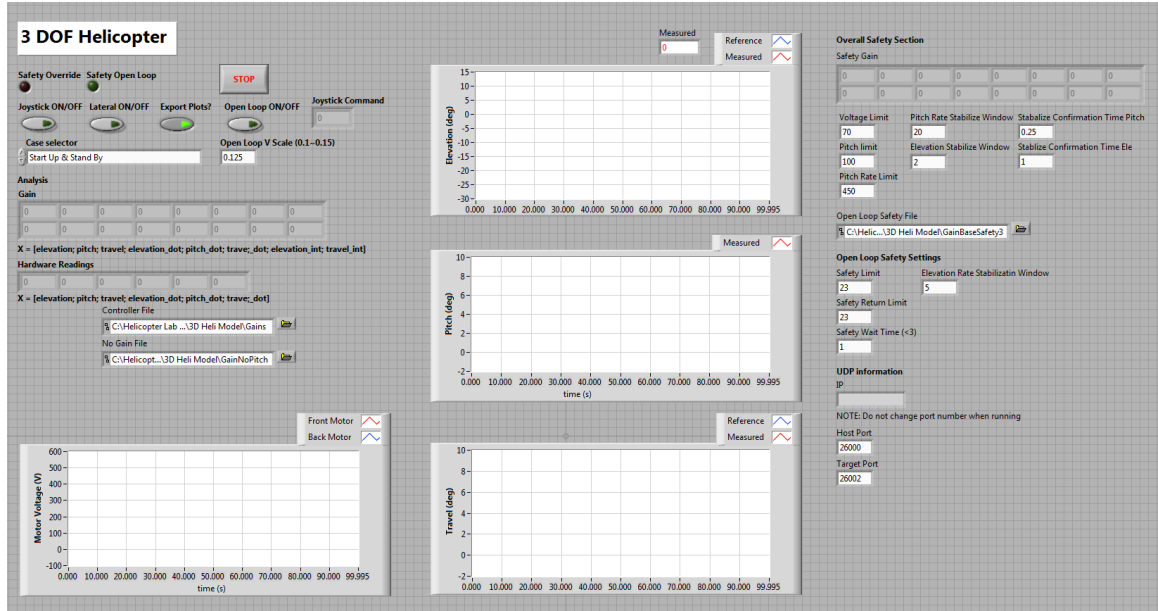

Figure 4: LabVIEW VI used to run the closed-loop controller on the 3 DOF Helicopter.
If this happens in the openloop manual control experiment (section 2.3.1), the green **Safety Open-Loop** light will illuminate (see figure 4). Do not worry as you will be given back the control authority after the light goes off momentarily.
1. Open the Main 3D HELI Control VI (figure 4), that is used to run the 3 DOF Helicopter experiment.
2. In the Main 3D HELI Control VI (figure 4), configure the panel with Joystick OFF, Lateral OFF, Export Plots ON and Open-Loop Off. Make sure the Case selector is at Start Up & Stand By